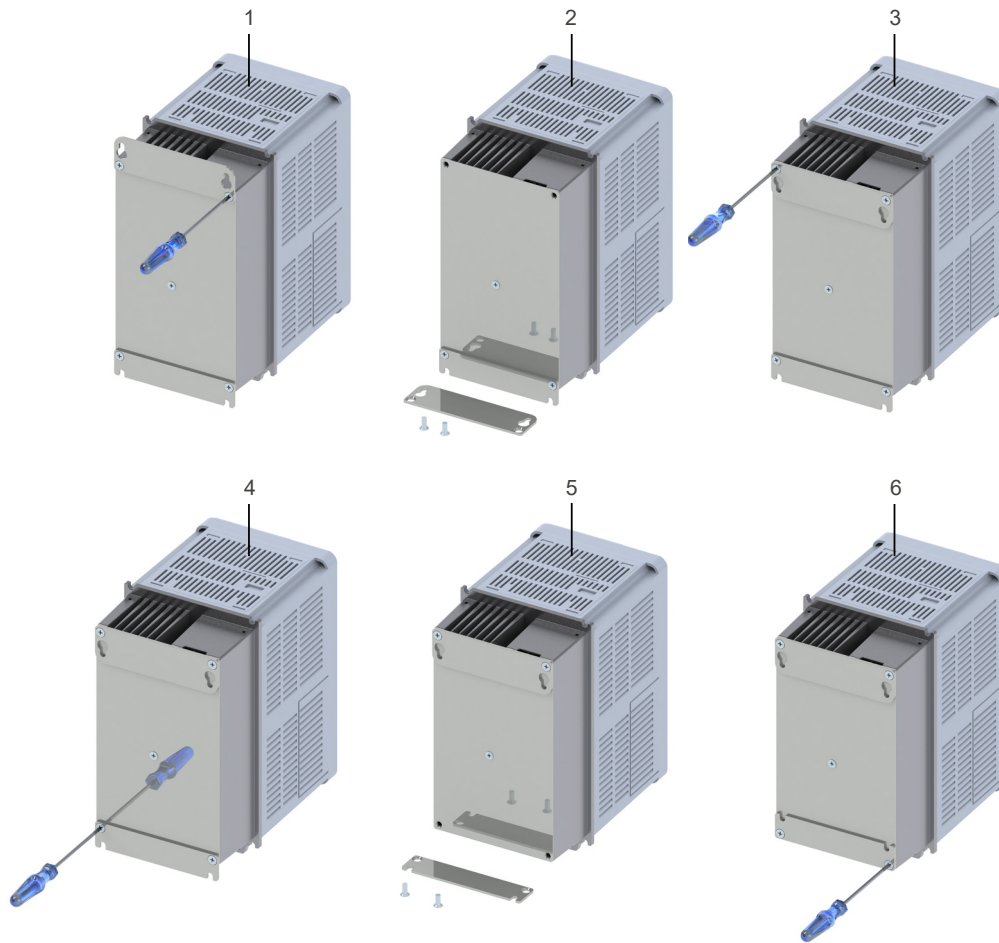

Figure 3.4: Repositioning of the mounting brackets
- The mounting brackets must be removed and repositioned as shown in Figure 3.4 on page 22.